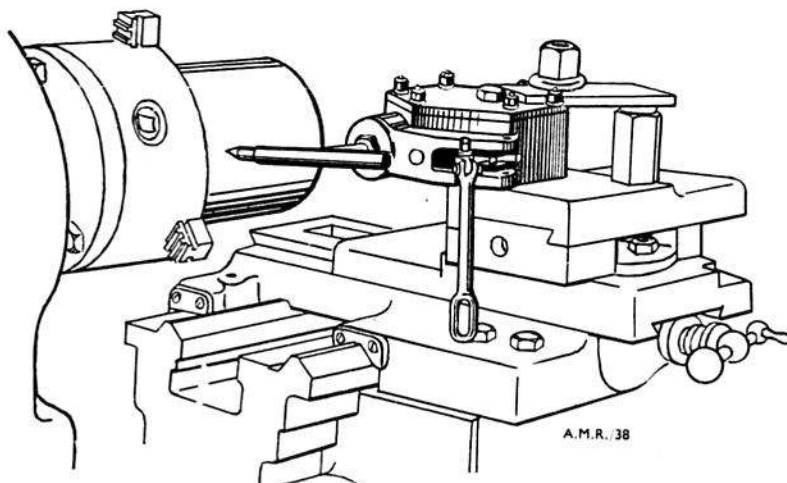

Fig. 13. Method of setting up lathe
- (c) Set up the drogue gun in the lathe tool rest and screw the pencil holder in place of the cocking tool as shown in fig. 13.